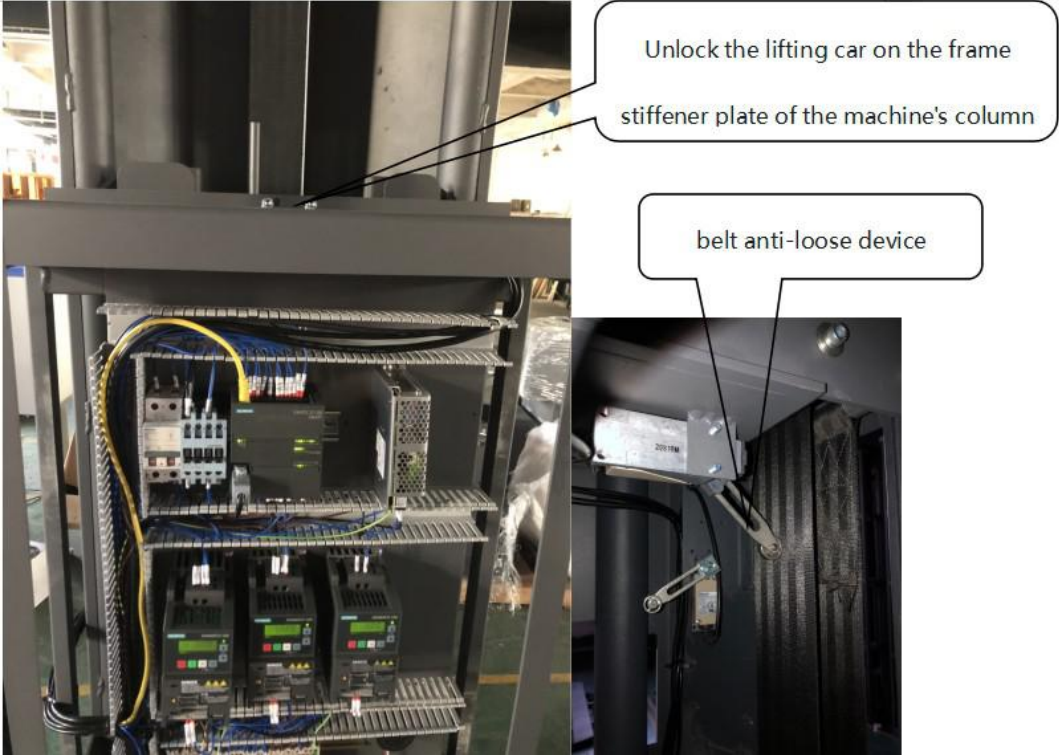

图 4.5.3.1
(1) Unlock the trolley from the stiffener plate, and check that the cloth belt anti-loosening switch is properly pressed by the cloth belt. As shown in the figure 4.5.3.1 below.